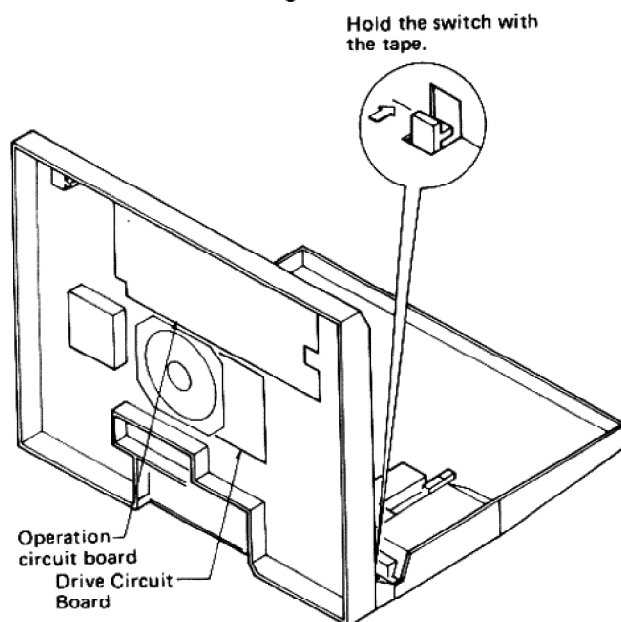

Fig. 8
2. How to raise the set (Fig. 8)